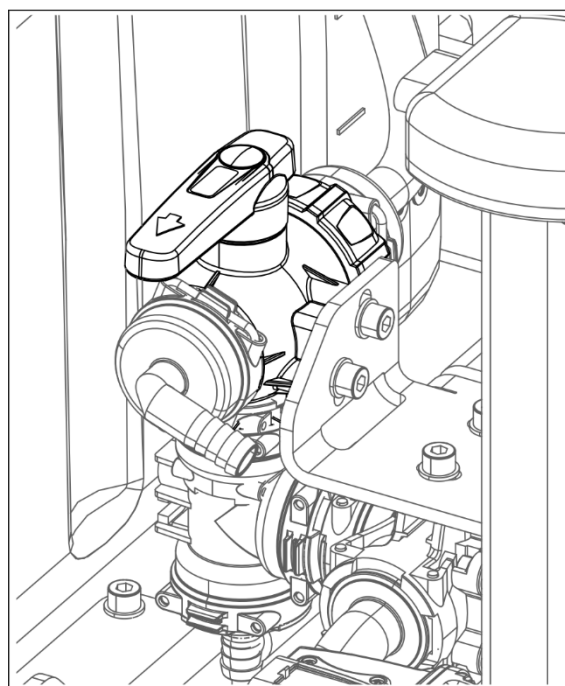

Figure29 : Three-way valve to the drain hose
- 1.2 Switch the three-way valve to the drain hose, see figure 29; the residual quantity is drained into the container.